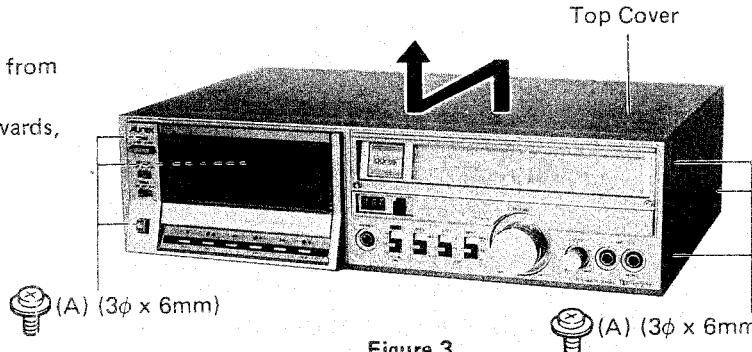

Figure 3
1. Remove six screws ((A) point on Figure 3) from each side of Top cover.